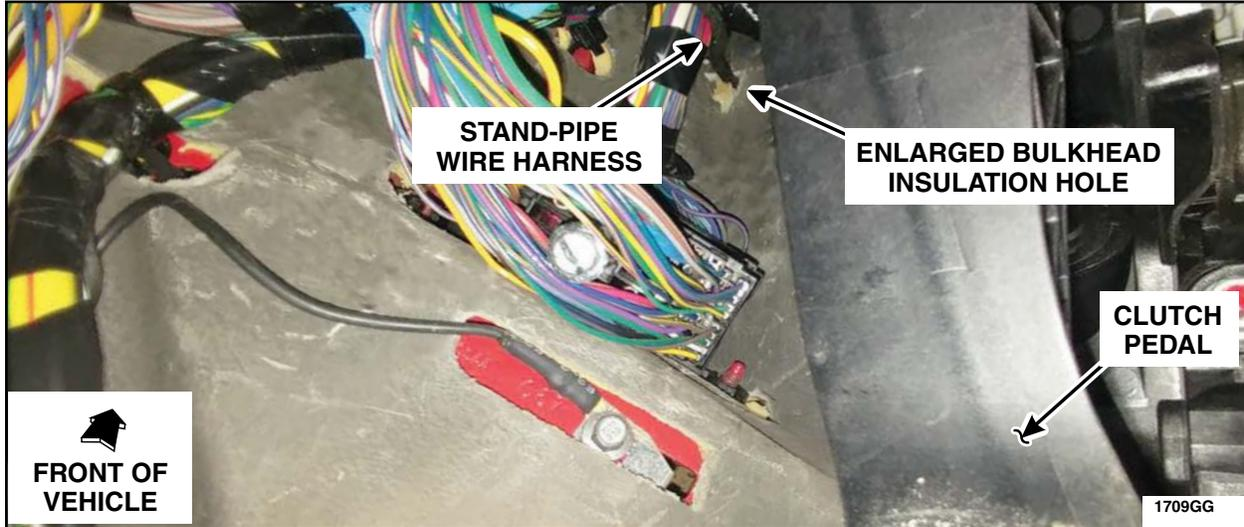

**FIGURE D4**
5. Continue pushing inward on the Phillips screw driver to push through the bulkhead insulation and then remove the Phillips screw driver from the hole. See Figure D4.